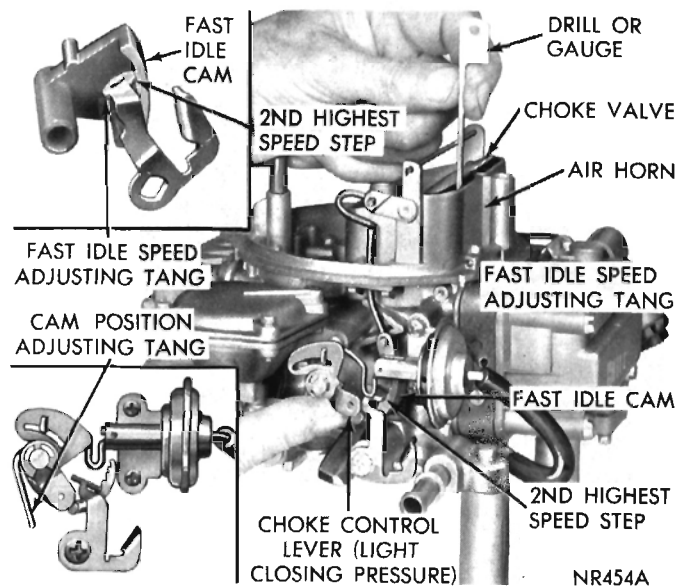
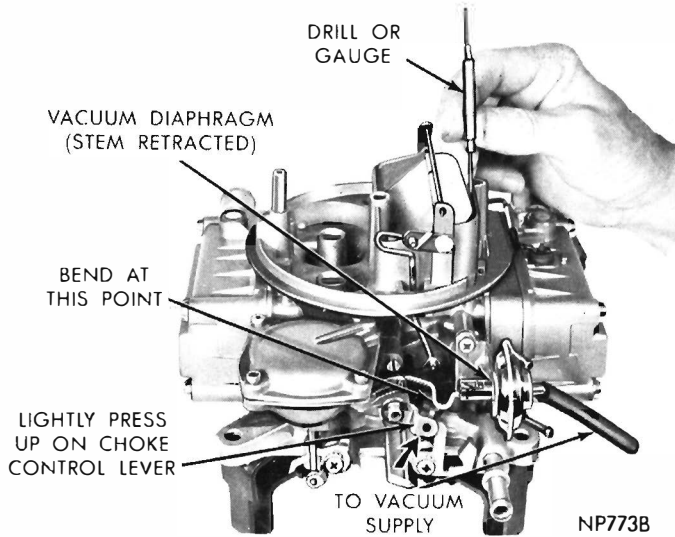

Fig. 21—Fast Idle Cam Position Adjustment
Fig. 22—Vacuum Kick Adjustment
(4) To adjust, bend the indicated tang (Fig. 21) until the correct choke valve opening has been obtained.
(1) If the adjustment is to be made with the engine running, position the fast idle tang (Fig. 21) (Cam position adjustment) to allow choke closure to kick position. If auxiliary vacuum source is to be used, open throttle valves, (engine not running) and move choke to closed position. Release throttle first, then release choke.
(2) When using an auxiliary vacuum source, disconnect the vacuum hose from the carburetor and connect it to the hose from the vacuum supply with a small length of tube to act as a fitting. Removal of the hose from the diaphragm may require forces which damage the system. Apply a vacuum of 10 or more inches to hose.
(3) Insert the specified drill (see specifications) between the choke valve and the wall of the air horn. (Fig. 22). Apply sufficient closing pressure on the lever to which the choke rod attaches to provide a minimum choke valve opening without distortion of the diaphragm link. Note that the cylindrical stem of the diaphragm will extend as an internal spring is compressed. This spring must be fully compressed for proper measurement of the vacuum kick adjustment.
(4) An adjustment will be necessary if a slight drag is not obtained as the drill is being removed. Shorten or lengthen the diaphragm link to obtain the correct choke opening. Length changes should be made by carefully opening or closing the bend provided in the